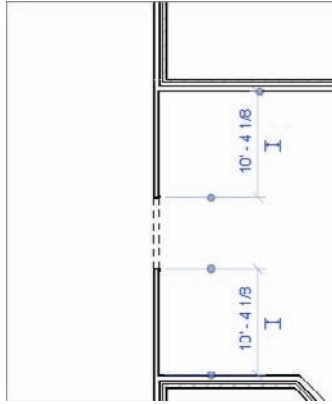

FIGURE 2.75 The new opening
10. Zoom into the area shown in Figure 2.75, and place an Interior - 6 1/8" Partition (2-hr) (Interior - 135mm Partition (2-hr)) wall as shown. This is the wall you'll place the opening into.
11. Click Home Tab > Component, and place the opening into the wall as shown in Figure 2.75.